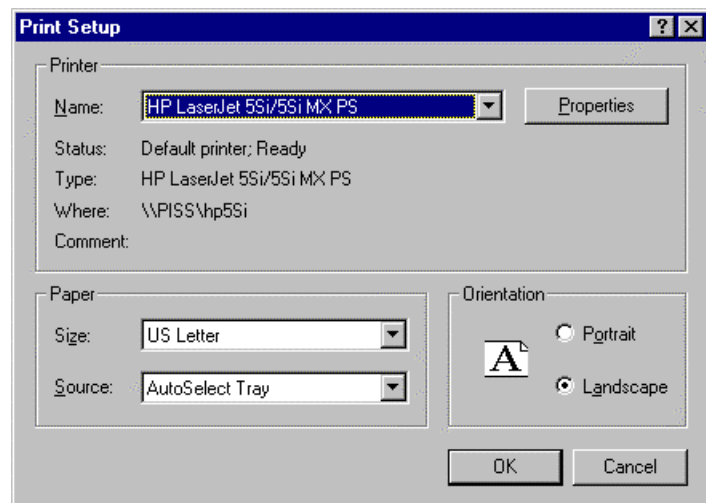

Figure 150. Print Setup dialog box
1. Open the file you want to print. Make sure that window is the active one. From the File menu, open the Print Setup dialog box (Figure 150).